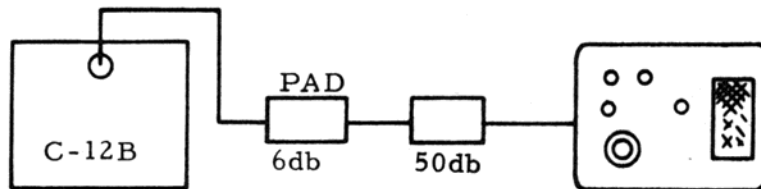

FIG. 2
- (m) Reinstall the 10455 KC crystal. Install 6db + 50 db pad between the C-12B and the Executive. (fig. 2)